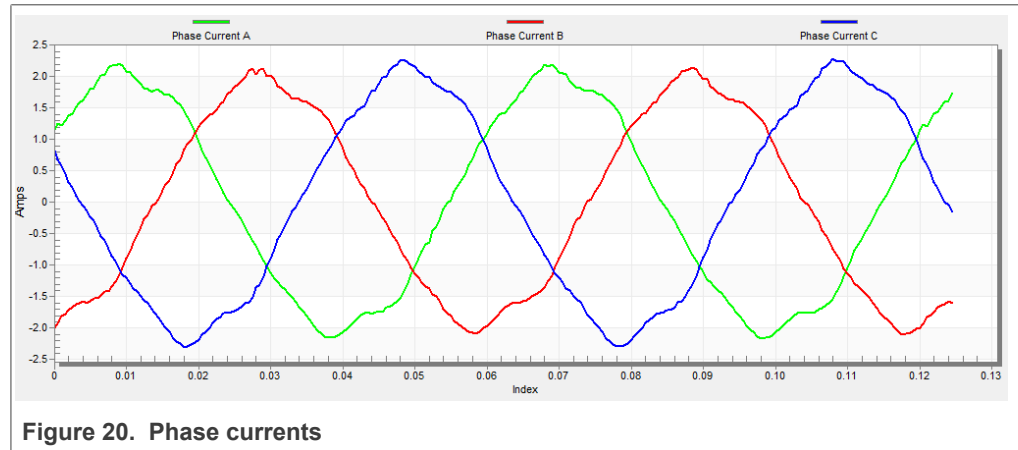

Figure 20. Phase currents
- The optimal ratio for the V/Hz profile can be found by changing the V/Hz factor directly using the “M1 V/Hz factor” variable. The shape of the motor currents should be close to a sinusoidal shape (Figure 20). Use the following equation for calculation V/Hz factor: